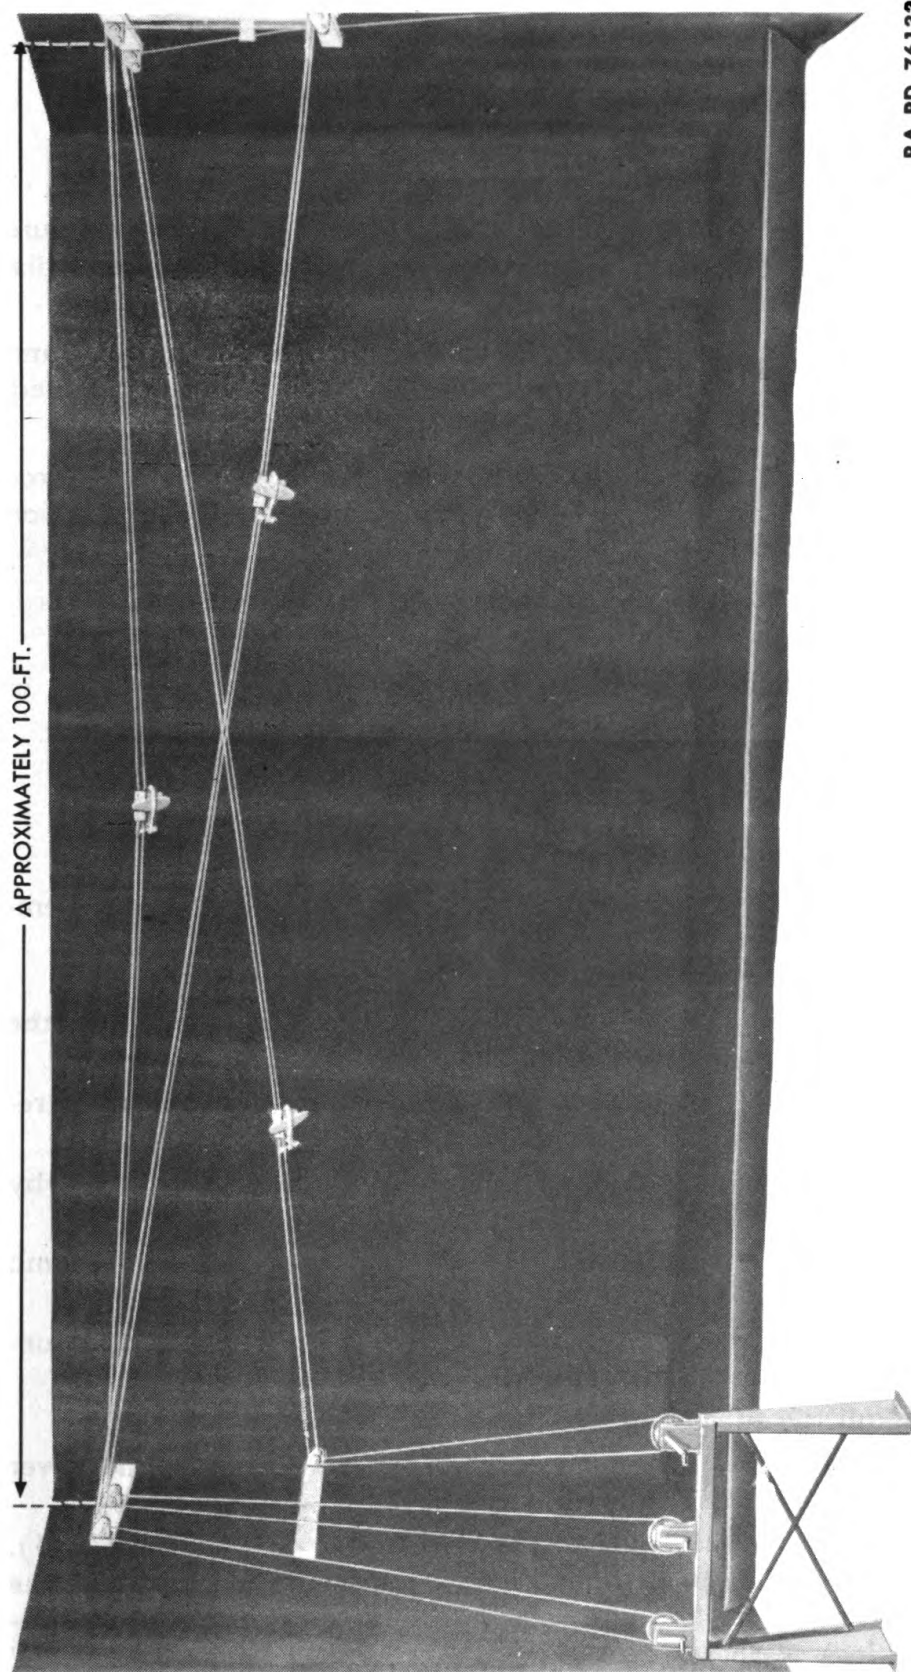

Figure 6 — Target System
d. The target system (fig. 6) for daylight operations consists of three miniature airplanes. Each airplane is supported on a steel wire with a twine tow line attached, for use in imparting forward and backward movement. The steel wires are so positioned that one wire provides a horizontal target course, another a diving course, and the third a climbing course. Paper targets are also provided for registering the accuracy of the aim of the student (fig. 161).